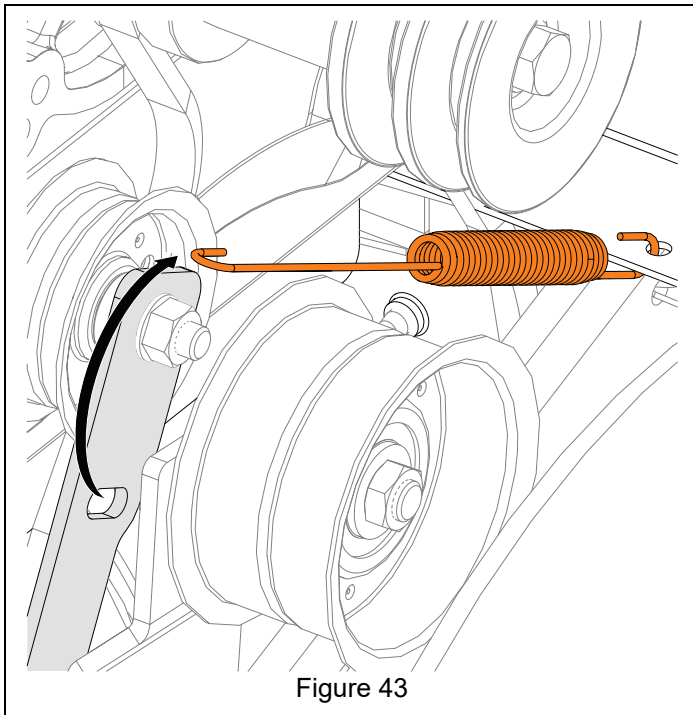

Figure 43
5. Disconnect traction drive idler spring. See Figure 43.
10. Ensure that traction drive belt is correctly seated and reconnect traction drive idler spring. See Figure 43.